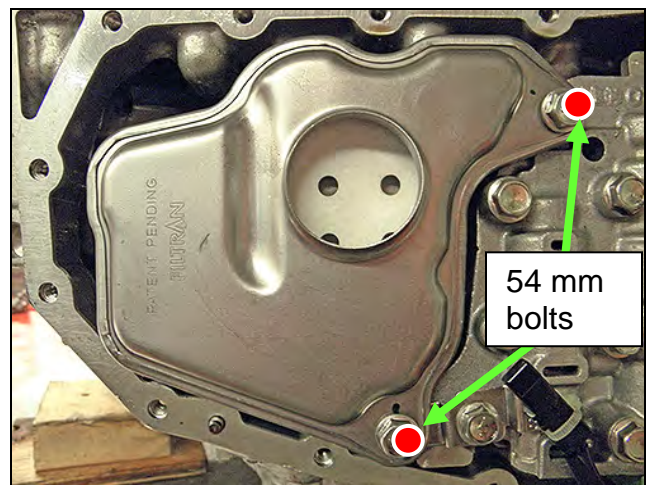

Figure 33
7. Install the new oil strainer with its new O-ring seal with two (2) bolts (Figure 33).